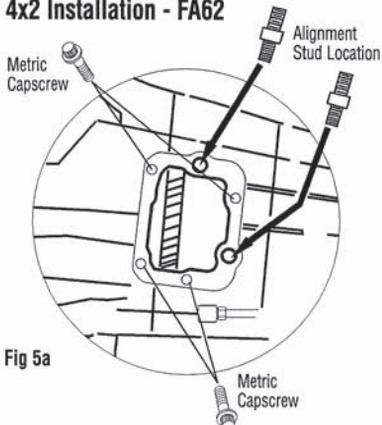
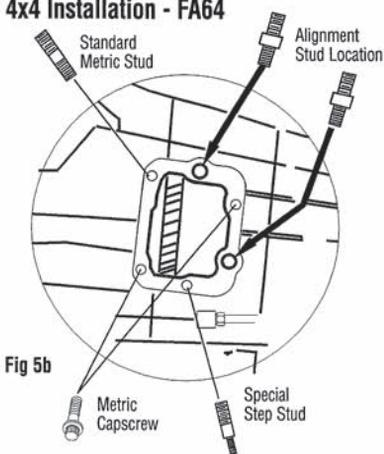

Fig 5a
Fig 5b
12. Locate the stud kit provided with the PTO. The FA62 PTO is provided with 4 capscrews and 2 special studs. The FA64 (4x4) PTO is provided with 2 capscrews and 4 studs. One stud is a 3/8-24 UNF to 10mm PTO stud. This stud should be installed into the upper left hole location as shown (Fig 5b). One of the other studs is a special 5/16-18 UNC to 10mm step stud. The step stud is to be installed into the bottom center hole as shown (Fig 5b). The other 2 studs are special alignment studs. The alignment studs are included in both the FA62 and the FA64 stud kits. These studs are identified by the larger barrel in the middle of the stud and they are plated a blue color. These alignment studs **must** be inserted into the correct hole locations as shown in Fig 5a and 5b.
13. Place the transmission gasket which was removed in Step 4, over the alignment studs making sure that the larger holes in the gasket/shim are located directly over the alignment studs installed in step 12. Place the PTO on to the transmission opening. Make sure the gasket is flat against the transmission (Fig 5a,b).
- 15a.** FA62 (Fig 5a) - Place the PTO into position on the transmission aperture using the alignment studs as guides. Hold the PTO in position and insert the top and bottom 10mm capscrews to hold the PTO while the remaining capscrews are installed (Fig 5a). Install hex nuts on the two remaining studs. Tighten the capscrews to approximately 30 ft.lbs. Tighten the nuts to 35-40 ft.lbs.
- 15b.** FA64 (Fig 5b,5c) - Place the PTO into position over the installed studs. Install the 3/8" hex nut on to the stud, but turn the nut only 4 turns. This will keep the PTO in place so that the bottom lock nut can be installed. Lift the lower portion of the PTO away from the pad and install the 5/16" lock nut to the bottom center stud (Fig 5c). Work the nut flush with the housing making sure that the gasket is in position while turning the nut. Tighten the upper left nut so that it is flush with the housing. Install the remaining 2 capscrews and tighten to approximately 30 ft.lbs. Install the 3/8" hex nuts on the two remaining studs. Tighten all of the 3/8" hex nuts to 35-40 ft.lbs and tighten the 5/16" lock nut to approximately 17 ft.lbs.